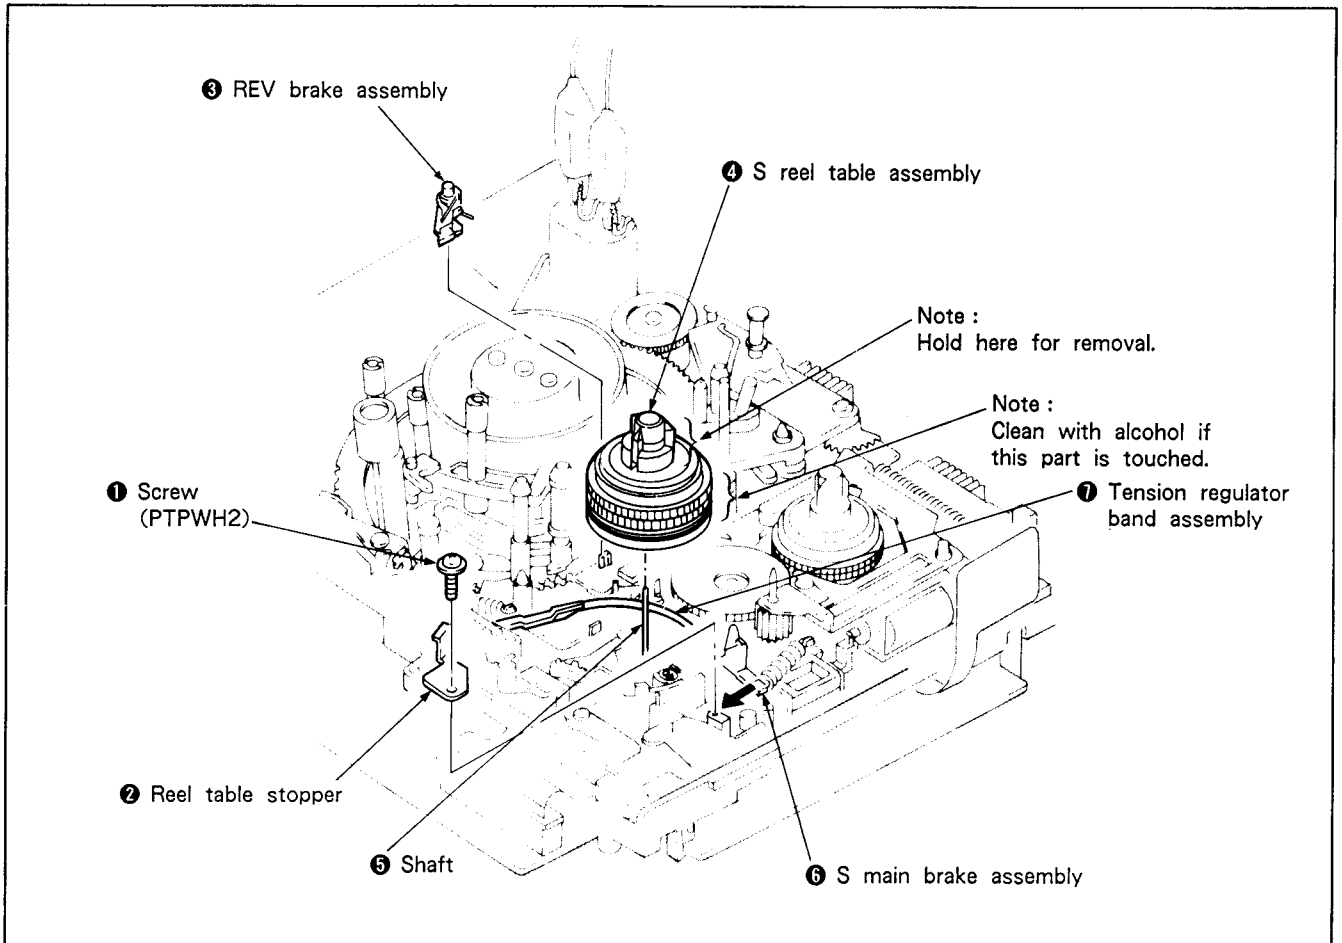

Fig. 7-6.
##### 1. Removal (See Fig. 7-6.)
- 3) Remove screw ❶ and remove reel table stopper ❷.
- 4) Remove the REV brake assembly ❸.
- 5) Remove the S reel table assembly ❹.
**Note :** Be sure to hold the upper reel claw section when removing. (See Fig. 7-6.(Note))
##### 2. Mounting (See Fig. 7-6.)
- 2) Fit on the band arm claw ❶.
- 3) Mount the S reel table assembly according to 7-3-1. 2. Mounting. (See Fig. 7-6.)